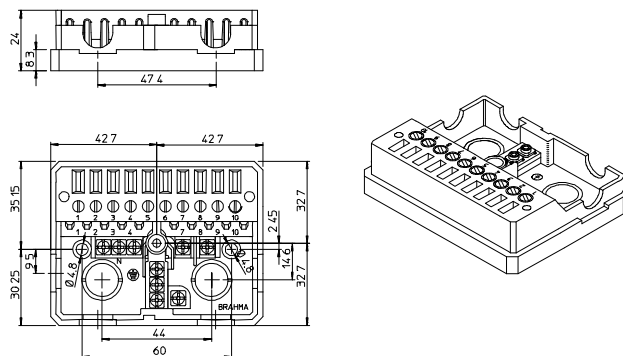
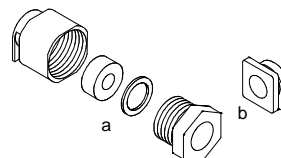

Fig. 2
Fig. 3
The accessories as connecting sockets and core hitches are supplied upon request for controller wiring. The following figures show connecting socket type NBT (Fig. 2) and core hitches (Fig. 3).
To order accessories (fig. 2 and 3), see to the following codes:
- socket type NBT code 18210124 (fig. 2);
- core hitches code 18210200 (fig. 3);
- core hitches code 80536550 (fig. 3 b).